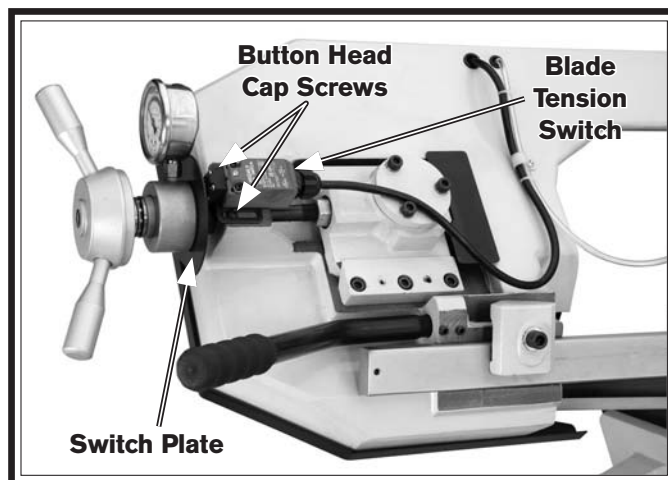

Figure 46. Blade tension limit switch.
- Use a 3mm hex wrench to loosen the two button head cap screws that secure the blade tension switch bracket shown in **Figure 46**.
3. Loosen the Phillips head screws that secure the blade travel limit switch shown in **Figure 46**.